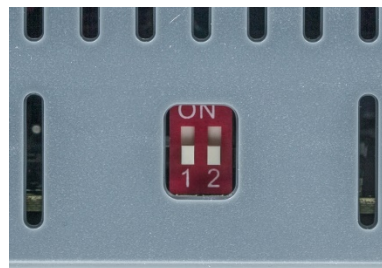

Figure 2-13: DIP Switches
3. Set both DIP switches, 1 and 2, to ON (up, in Figure 2-13), and restore power to the transmitter.